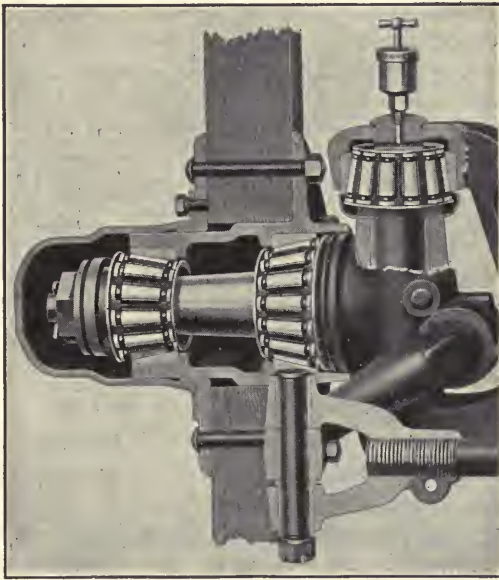

FIG. 110.—Timken roller bearings. As used in the front wheel of an automobile.
6. Four men raise an anchor weighing $1\frac{1}{2}$ tons, with a capstan (see Fig. 110) having a barrel 9 in. in diameter. The circle described by the hand-spikes is $13\frac{1}{2}$ ft. in diameter. How much force must each man exert?
and *S* would be greater than between *R* and *T*. In *R* and *S* the surfaces will fit closer together than in *R* and *T*. The use of different materials will reduce friction. The iron axles of car wheels revolve in bearings of brass. Jewels are used in watches for the same reason. (c) Another very common method of reducing friction is by the use of *lubricants*. The oil or grease used fills up the irregularities of the bearing surfaces and separates them. *Rolling friction* is frequently substituted for sliding friction by the use of ball and roller bearings. These are used in many machines as in bicycles, automobiles, sewing machines, etc. (See Fig. 110.)